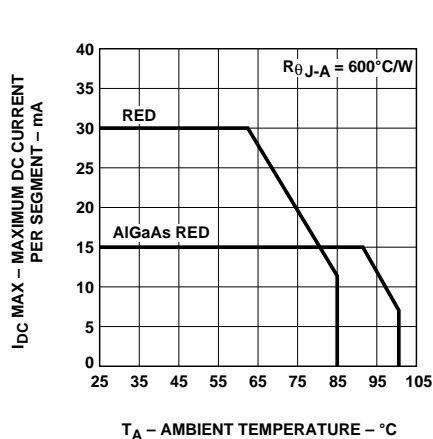

Figure 3. Maximum Allowable DC Current vs. Ambient Temperature.
- Derate maximum DC current for Red above $T_A = 62^\circ\text{C}$ at 0.79 mA/°C, and AlGaAs Red above $T_A = 91^\circ\text{C}$ at 0.8 mA/°C. See Figure 3.